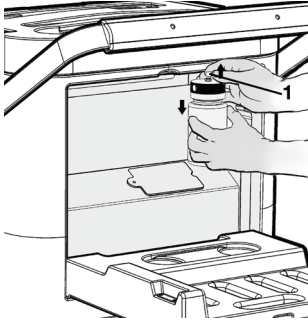

Fig. 8: Removing used oil bottle
- 1 To remove the used oil bottle, pull the connection (Fig. 8) upwards slightly and detach the bottle downwards.